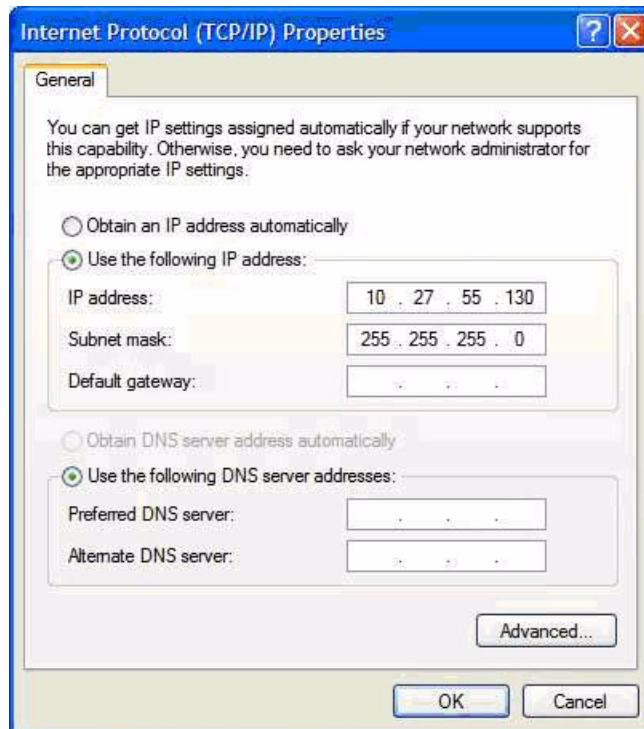

Figure 3-14: IP Address Settings on the PC
- 1 Open the PC Ethernet port properties and modify the TCP/IP not to assign an IP address automatically. Then specify the new address (for example 10.27.55.130 in Figure 3-14 on page 3-21) and the subnet mask (Usually 255.255.255.0).